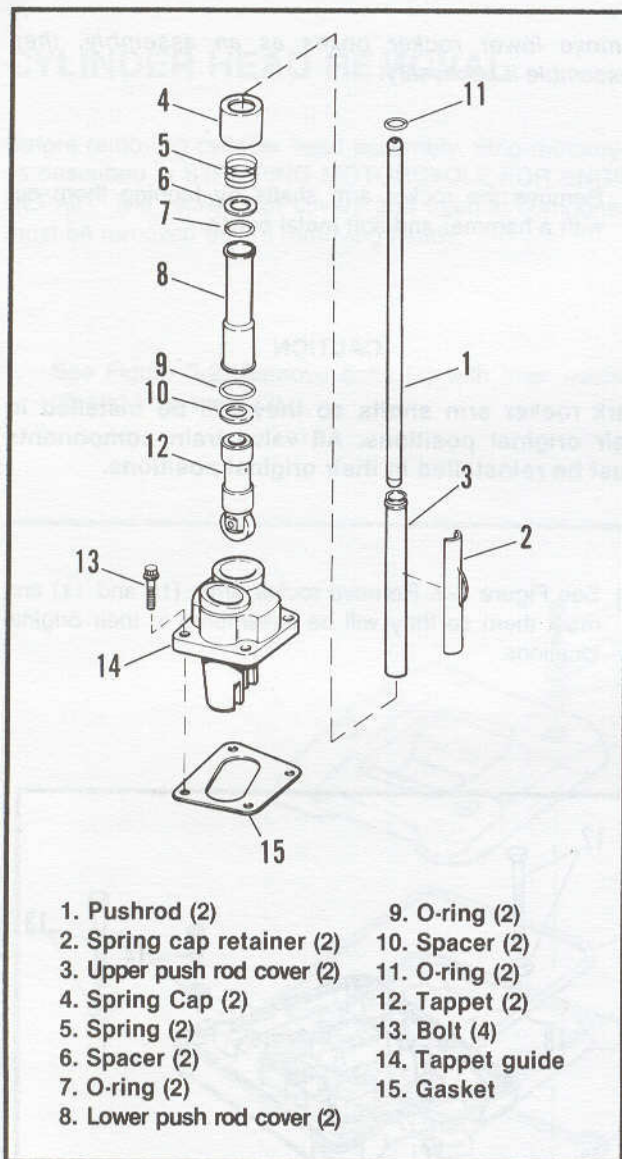

Figure 3-7. Rocker Arm Push Rod and Cover
7. See Figure 3-7. Remove the push rods (1) and mark their location and orientation, top and bottom.
8. Remove spring cap retainers (2) on push rod covers and remove push rod covers and associated parts, (3 through 11).